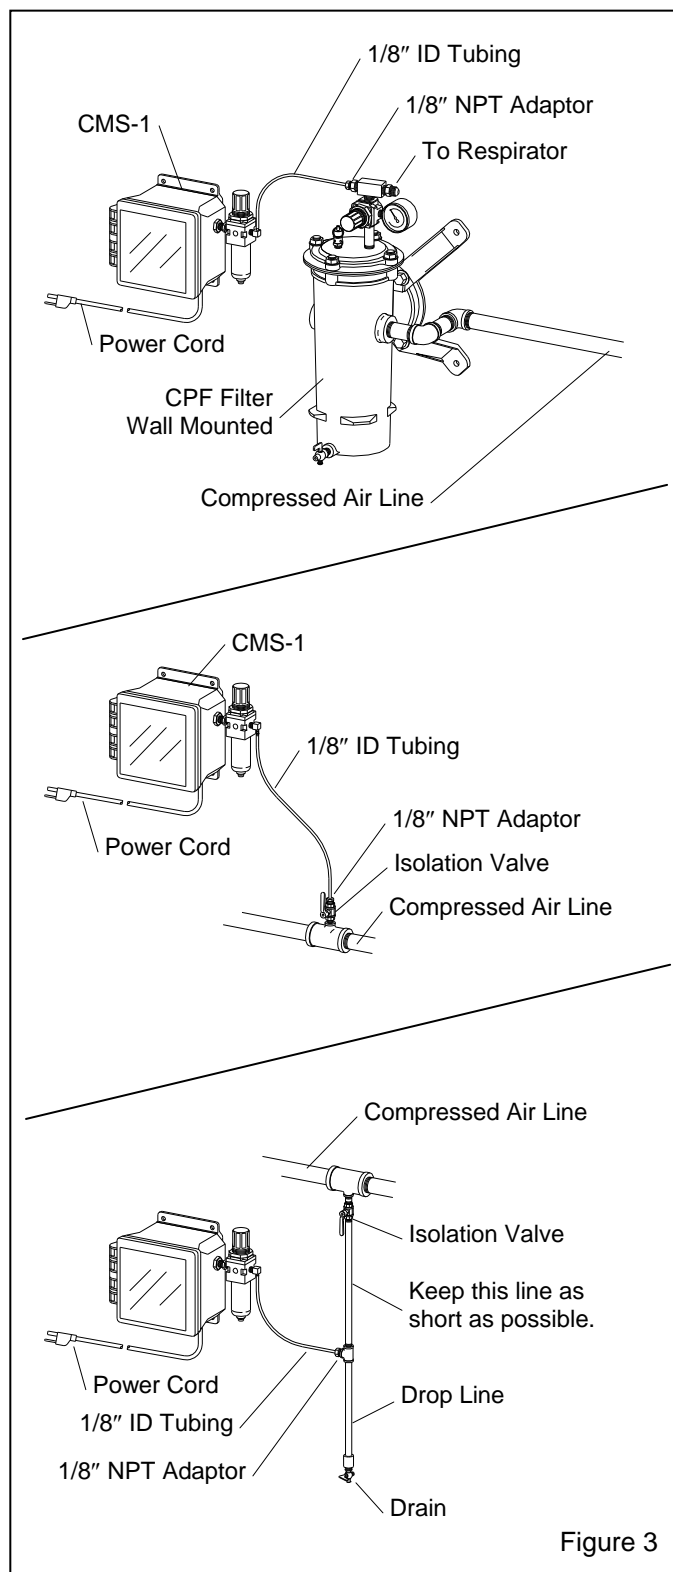

Figure 3
2.3.2.3 Place a tee in the air supply line, and use a bushing or other adaptor, to connect the 1/8" NPT tube adaptor supplied. Install an isolation valve at the source to enable depressurization for service and to remove the monitor. Typical set-ups are shown in Figure 3.